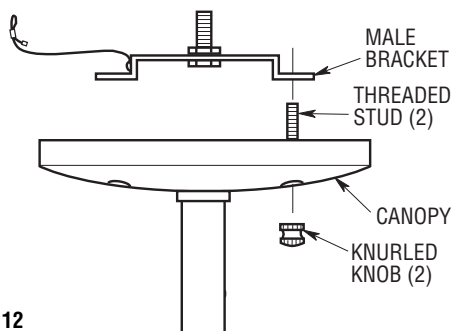

Figure 12
4. Screw the two threaded studs (supplied) into the tapped holes in the male bracket. Lift the canopy up to the threaded studs and turn until studs protrude through the holes in the canopy. Secure the canopy in place by installing the two knurled knobs (supplied) (Figure 12). Tighten the knurled knobs securely until the canopy fits snugly against the ceiling (Figure 12).